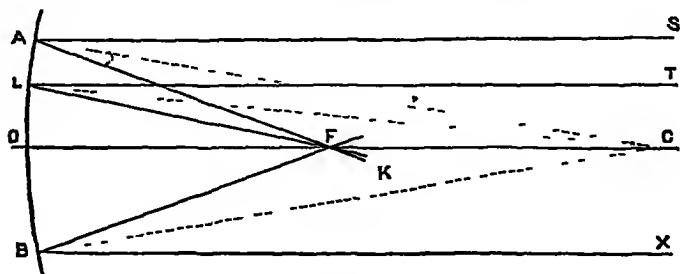

FIG 76
Suppose that AB (fig 76) is the section of a concave mirror, C, the centre of the sphere, is called the centre of curvature, O the apex, and CO the principal axis. A very small portion of the mirror at any point A will be a plane, of which AC, the
**The positions of the object and the image**—From fig 76 we see, that if a luminous point be at  $c$ , all rays will be normal to the mirror, and therefore will be reflected back to  $c$ . When the object is at the centre of curvature, the image will be at the centre of curvature